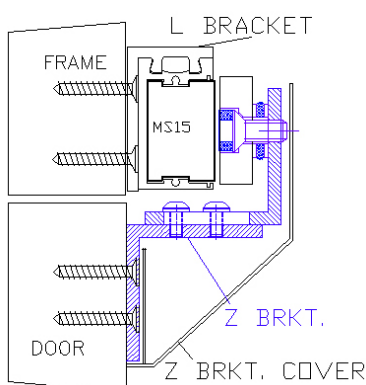

fig. 5 Inward opening doors generally require a **Z & L** bracket :-
- Use Z & L bracket as Fig. 5
- Or dispense with the L bracket and fix through the rear of the Magnet housing as described in Fig.5
Typical **Inward** opening door arrangement shown in Fig. 5